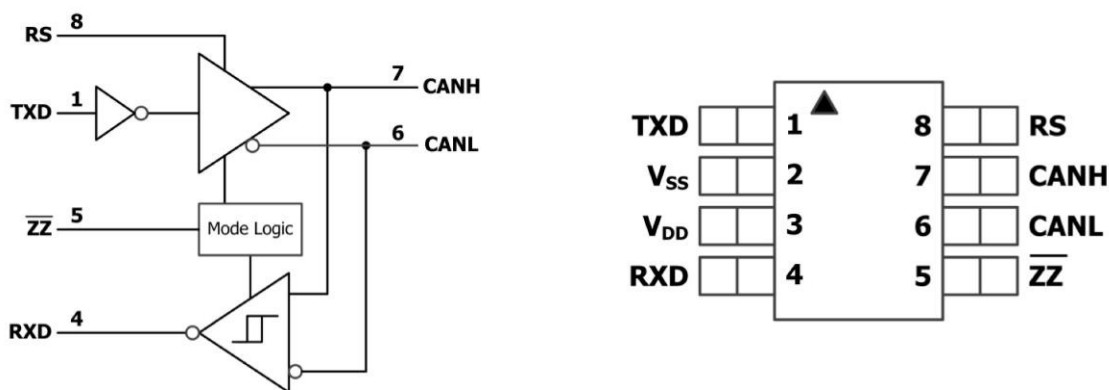

Figure 2: UT64CAN3331 (Diagnostic Loopback)
- Diagnostic loopback mode (Figure 2)
The UT64CAN3331, Figure 2, provides the option to isolate the transceiver bus connections to permit local node diagnostics, without interrupting operations on the bus. Diagnostic Loopback mode is enabled when the LBK pin is biased $\geq V_{IH}$. Diagnostic Loopback mode is disabled when the LBK pin is biased $\leq V_{IL}$. In the Diagnostic Loopback mode, the CANH/CANL output is placed in the recessive mode. Also, the connection between TXD and RXD is made through the mode logic and connection and the connections for TXD and RXD are isolated from CANH/CANL.